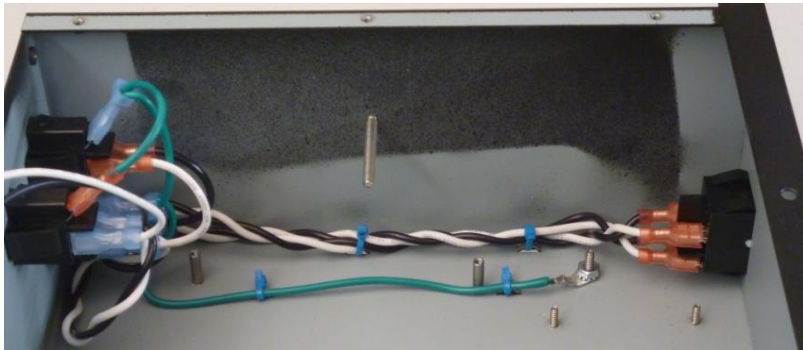

**Figure 16-Adding Lug to Ground Harness**
1. Cut the long green wire to 8" length as shown in Figure 16.
2. Remove 3/8" of insulation from the now 8" wire. Twist and tin the strands. Loop and crimp the wire on the lug as shown in Figure 16. Solder the wire to the lug.